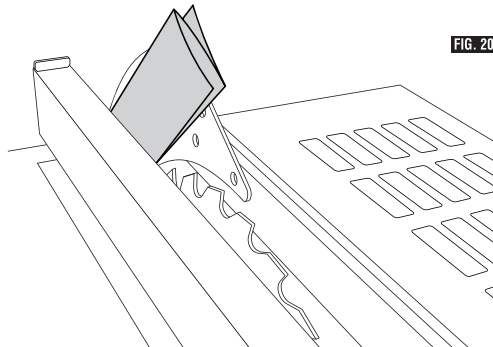

FIG. 20
4. Using the rip fence as a guide, check the riving knife alignment with the plane of the saw blade. Since the riving knife is thinner by approximately three thicknesses of paper on each side than the width of the blade's KERF (Fig 13) you must make a temporary paper "spacing gauge". Make two folds in a small piece (6" X 6") of ordinary newspaper making three thicknesses. Place the paper spacing gauge between the riving knife and the rip fence (Fig 20).